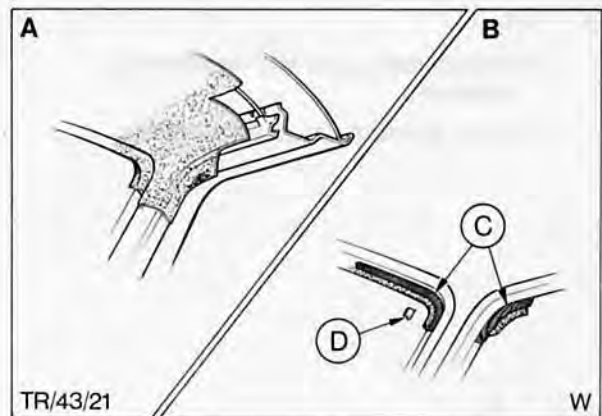

Fig. 18. Headlining at windscreen and door apertures
12. Trim excess material, adhere material to door opening flange finishing at 'A' pillar as shown 'A' Fig. 18. Clip at corner as shown 'B' Fig. 18.